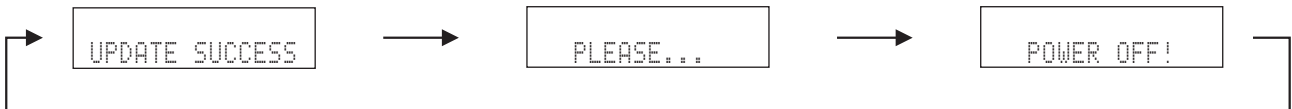

Fig. 3
- When writing of the firmware is completed, "UPDATE SUCCESS", "PLEASE..." and "POWER OFF!" are displayed repeatedly. (Fig. 3)